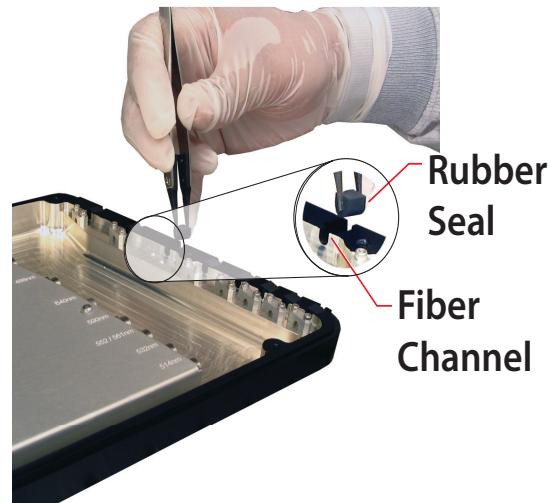

Figure 5-22. Replace Rubber Seal
5. Using the tweezers, replace the rubber seal in the empty fiber channel, as shown in Figure 5-22.